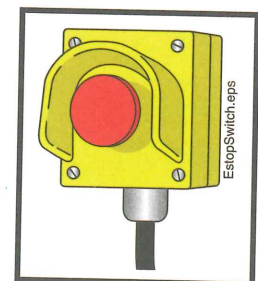

Figure 5
- 3.12** **⚠ WARNING** (See Figure 5.) Mount or dismount the pump or truck using the *3-point Rule* (i.e. keep two hands and one foot or one hand and two feet in contact with a secure surface at ALL times).